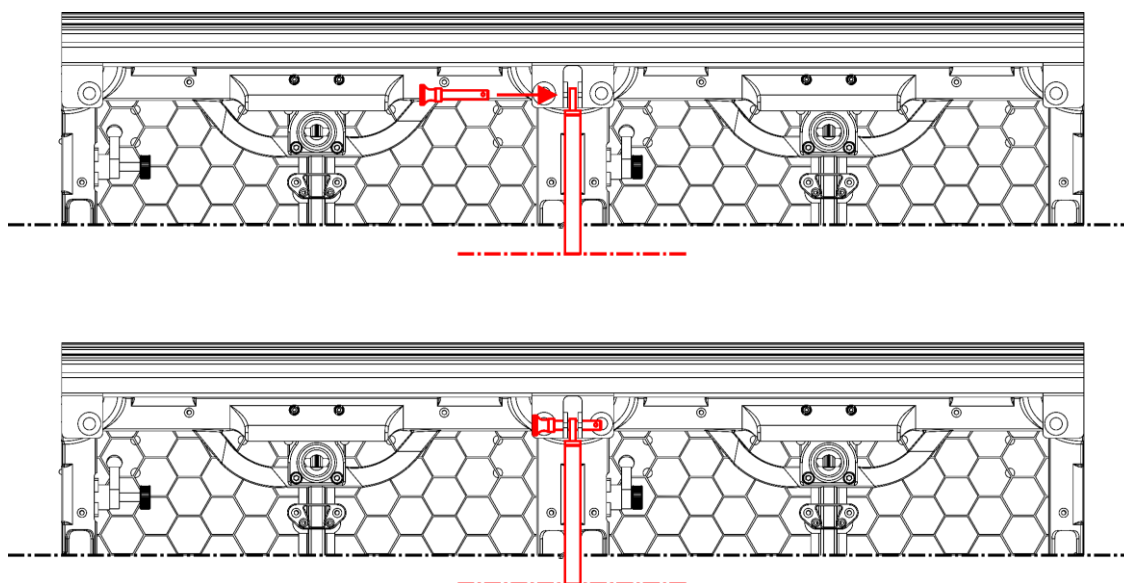

Fig. 20
- 03) Put the **spring-loaded pin (15)** through the **extension tube mounting opening (03)** of the **top frame (A)** and the upper opening of the **extension tube (E)** (Fig. 20).